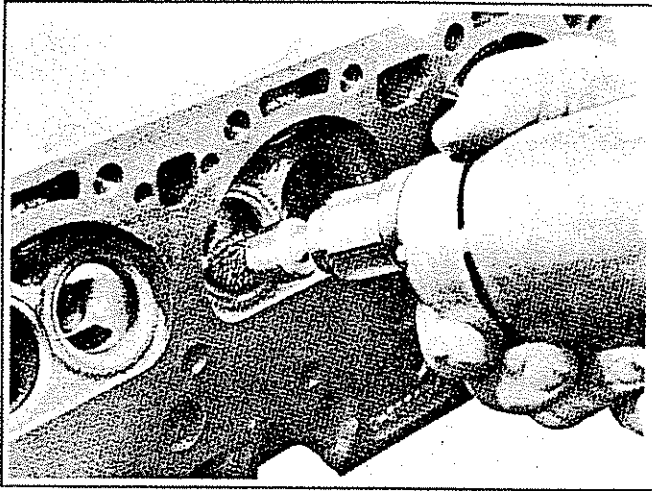

Fig. 6A2-17--Cleaning Combustion Chambers-Typical
3. Measure valve stem clearance (Fig. 6A2-19) as follows: Clamp a dial indicator on one side of the cylinder head rocker arm cover gasket rail, locating the indicator so that movement of the